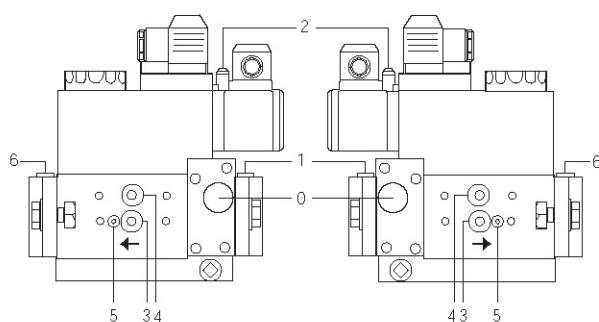
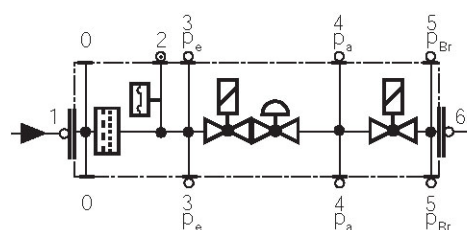

Fig. 25
Fig. 26
- Change the filter if the pressure difference between pressure connection 1 and 3 (Fig. 25-Fig. 26) is $\Delta p > 10$ mbar.
- Change the filter if the pressure difference between pressure connection 1 and 3 (Fig. 25-Fig. 26) is twice as high compared to the last check.